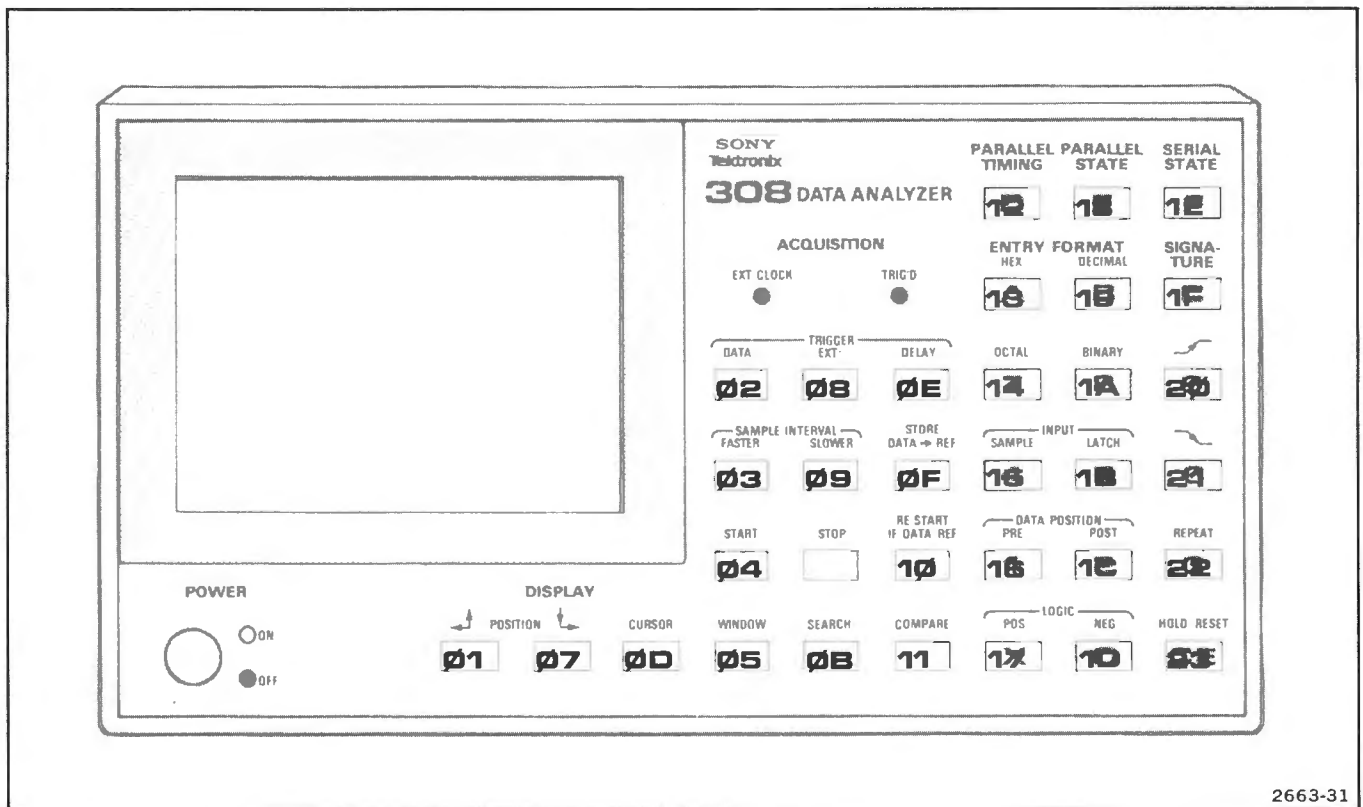

Figure 4-1. Diagnostic 0 keyboard code.
f. Press each key on the 308 keyboard and concurrently CHECK that the number appearing on the screen display matches the respective code for that key as shown in Figure 4-1.